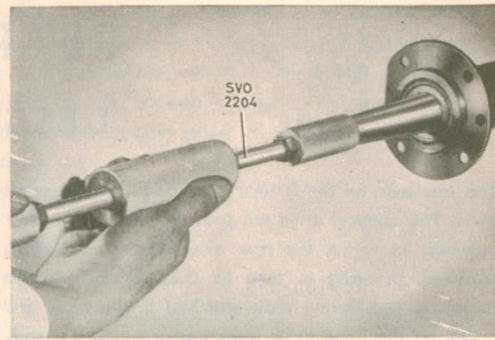
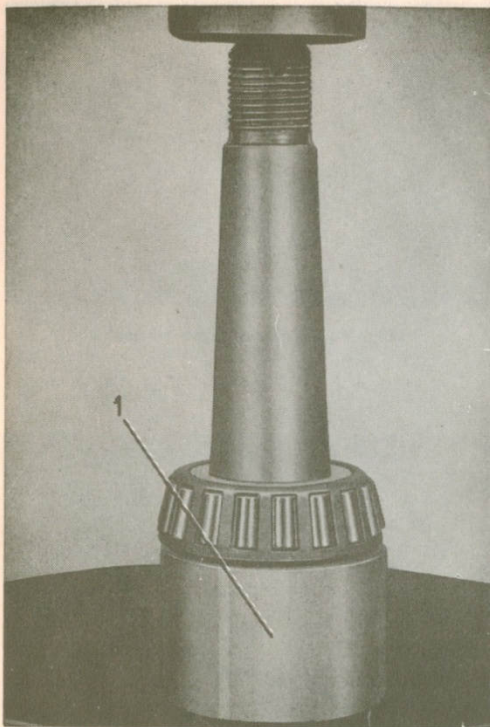

Fig. 5-2. Removing an axle shaft
Fig. 5-9. Removing the axle shaft bearing
2. Pull out the axle shaft, Fig. 5-2. Use puller SVO 2204.
2. Pull out the axle shaft, Fig. 5-2. Use tool SVO 2204. Check or replace the oil seal.
3. Press off the bearing, see Fig. 5-9. Use tool SVO 1806 under the bearing. Fit the new bearing by using tool SVO 1805.
3. Remove the axle shaft (13). Use puller SVO 2204, see Fig. 5-2. If necessary, press out the roller bearing (15) from the shaft. Use tool SVO 1806 as a support, see Fig. 5-9.